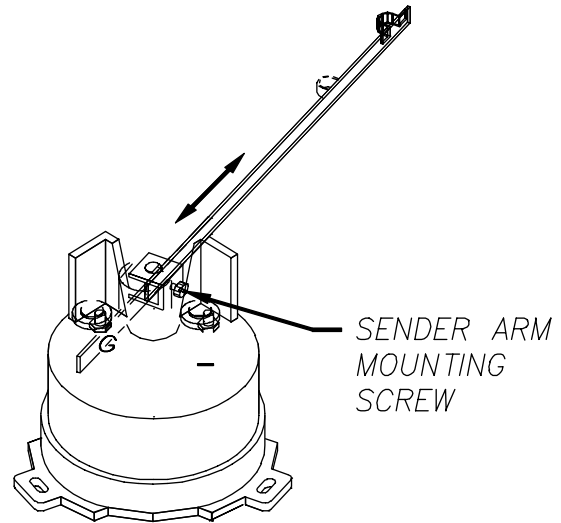

Figure 3
3.) The attachment points of the linkage to the steering mechanism and the adjustable length of the sender arm are the controlling factors for staying within the travel limits. Sender arm adjustment is shown in Figure 3.